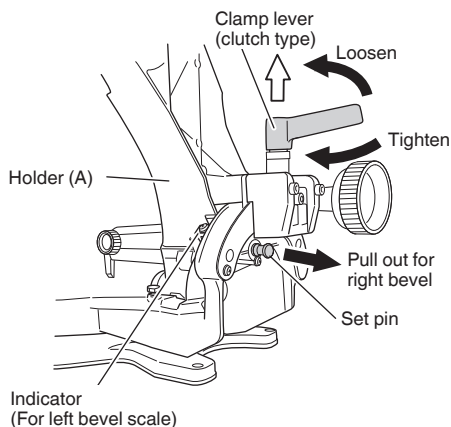

Fig. 53
1. Loosen the clamp lever while holding down the head, and tilt the head to the left or right. When tilting to the right, pull the set pin in the direction of the arrow as shown in **Fig. 53**.
2. Align the indicator (for left bevel scale) to the desired bevel angle using the bevel scale. Then tighten the clamp lever to fix the holder (A). (**Fig. 53**)